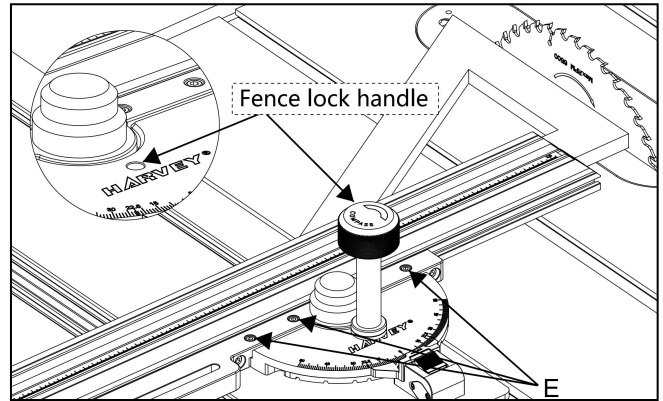

Fig.21
(3) As shown in **Fig. 21**, remove the fence lock handle and rotate it through the reserved hole on the dial to lock the dial. (A mounting hole is reserved on the dial for angle calibration)
(4) Raise the blade to the highest position, check whether the blade is perpendicular to the fence by a square or a similar tool. If any deviation occurs, loosen the dial locking screws (E), as shown in **Fig. 21**, then swing the fence to make the fence perpendicular to the blade. Tighten the dial locking screws (E).
(5) Remove the fence lock handle from the dial and re-install it to the original position. The calibration is completed.